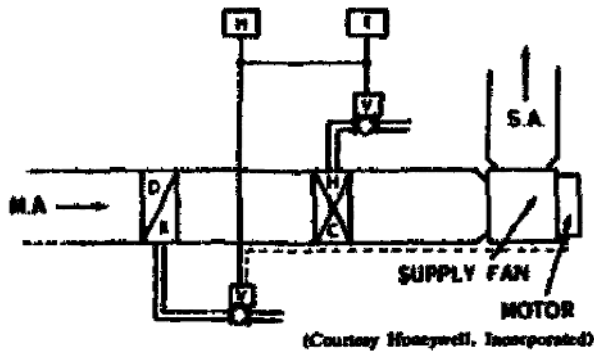

Figure 9. Dehumidification control in a two-position D/X system.
19. *Simple two-position control.* Figure 9 shows a system which uses a space thermostat to control a reheat coil and a D/X coil. It opens the solenoid valve to the heating coil when the